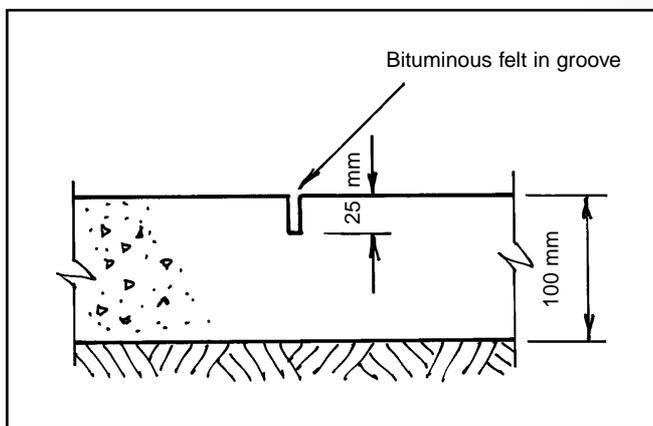

Figure 4: Grooved joint.
- **Grooved Joint** (see Figure 4) This is used when the whole pitch is to be placed in one operation. To make a grooved joint, a steel blade about 3 mm wide is forced down into the fresh concrete to a depth of 25 mm. It is then withdrawn leaving a groove into which is dropped a strip of either bituminous roofing felt (eg Malthoid) or hardboard 3 mm thick cut to size. Surface finishing of the concrete can then be completed.